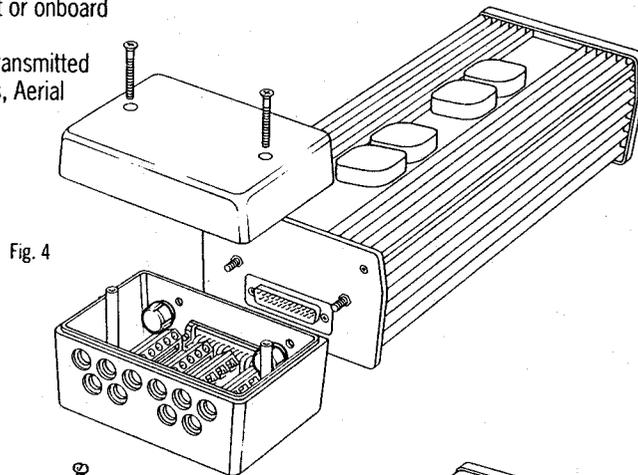

Fig. 4
- Remove Terminal box lid (Fig.4).
- Unscrew two internal thumb retaining nuts (Fig. 4).